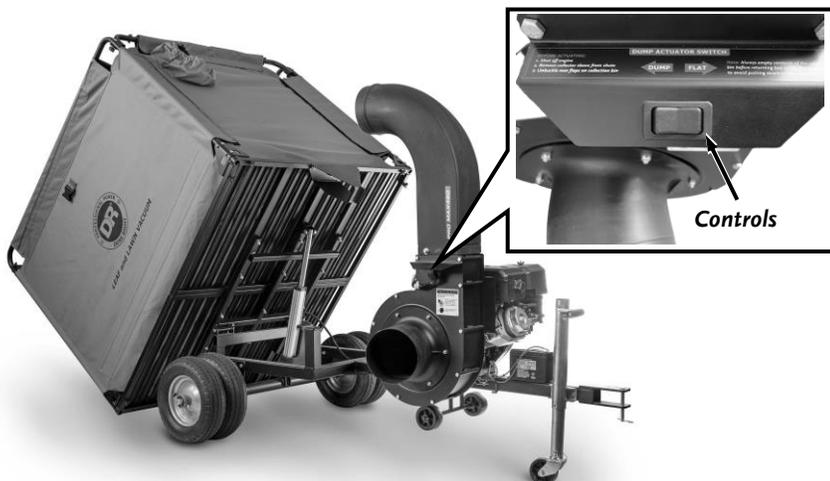

Figure 73
6. Push and hold the Dump Switch towards “DUMP” to tip the Collector back (**Figure 73**) until it reaches full travel or the bed hits the ground.